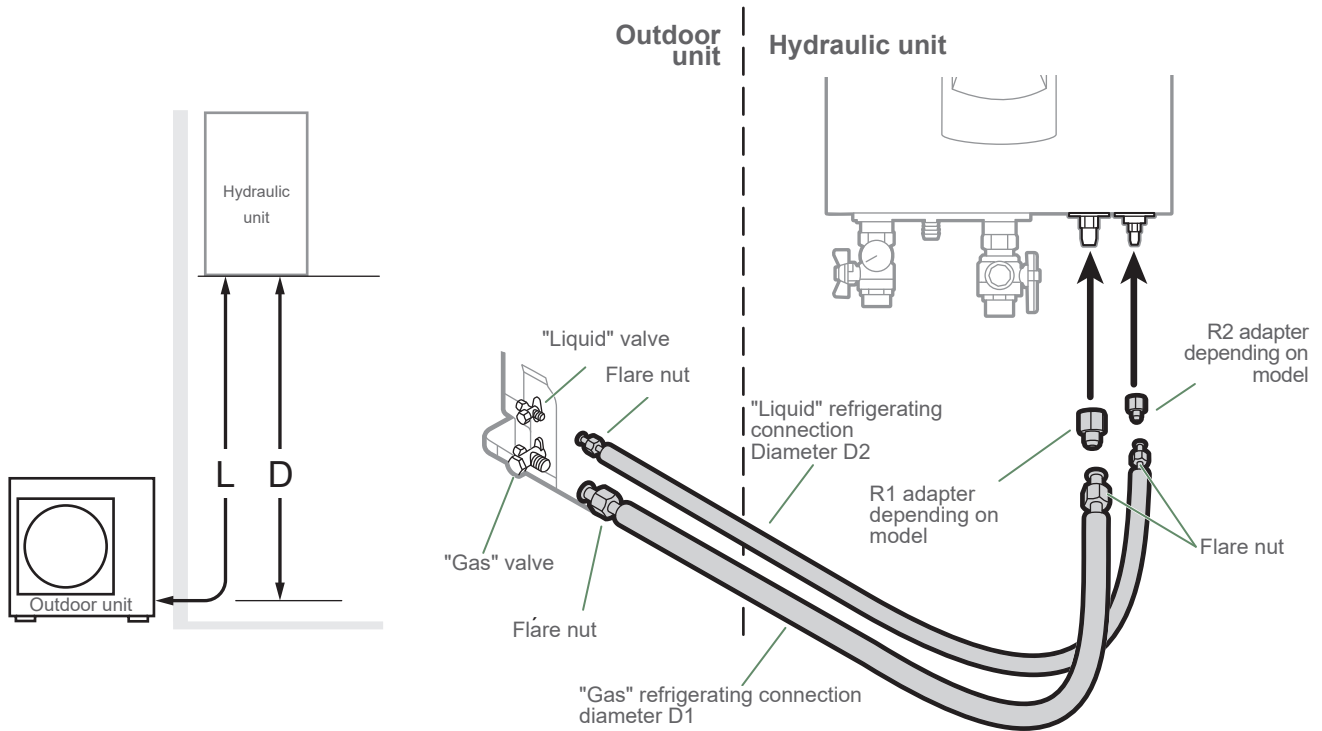

fig. 28 - Refrigerating link connection (accepted diameters and lengths)
- Where necessary, connect an adapter (reducer) 3/8" - 1/4" or 5/8" - 1/2" (see *fig. 28*).